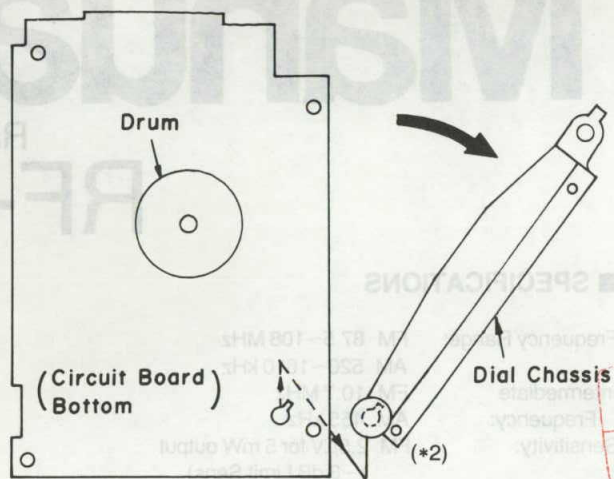

Fig. 4
*2 Pull out the protuberance of the dial chassis through the hole on the printed circuit board. (Refer to Fig. 4)